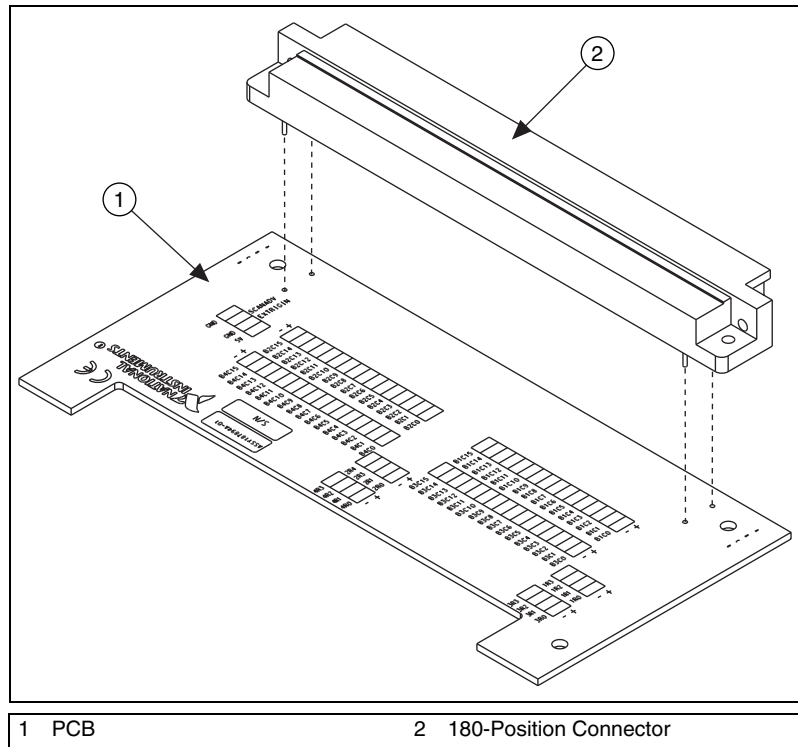

Figure 4. Attaching the Mating Connector
1. Orient the 180-position connector as shown in Figure 4.